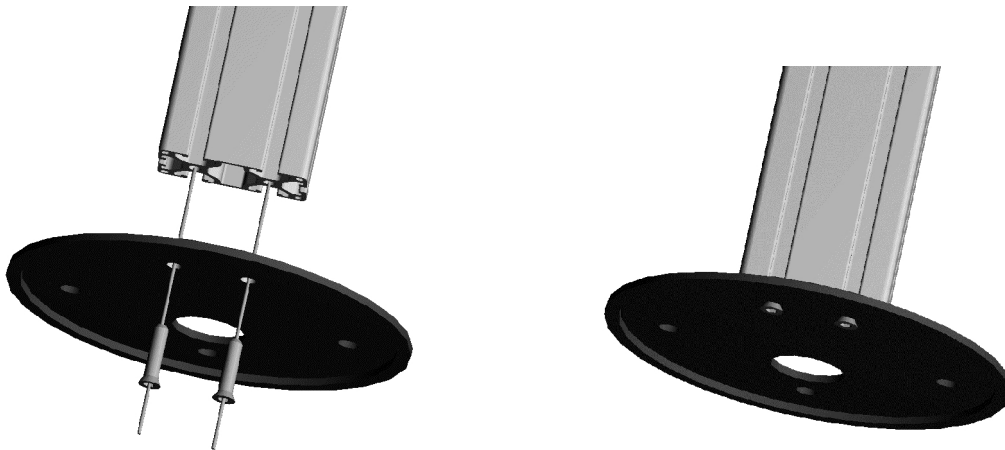

Figure 1
ASSEMBLY OF THE FMC-B12 WITH THE ROTATION FLANGE (Fig. 1)
- Assembly the rotation flange with the profile using the correct provided screws (as shown in figure 1).